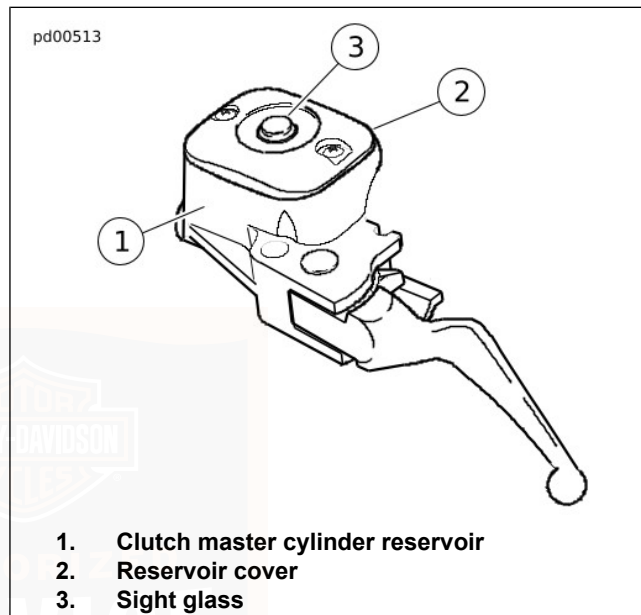

Figure 52. Clutch Master Cylinder Reservoir
2. See Figure 52. View reservoir sight glass (3). Verify fluid presence. Sight glass appears dark if fluid is present.